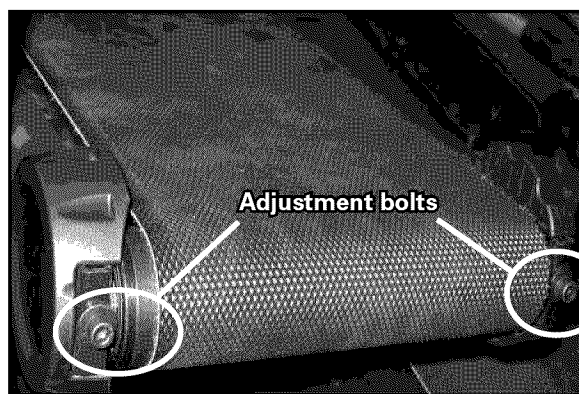

Figure 2
2. If the belt tracks too far to the right, use 3/16" hex key to turn the right adjustment bolt (see Figure 2) clockwise in full turn increments until the belt is aligned.